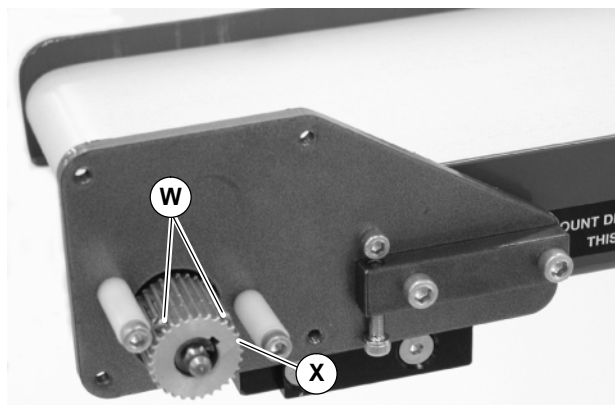

Figure 11
4. Loosen (2) set screws (W of Figure 11) on timing belt pulley (X).